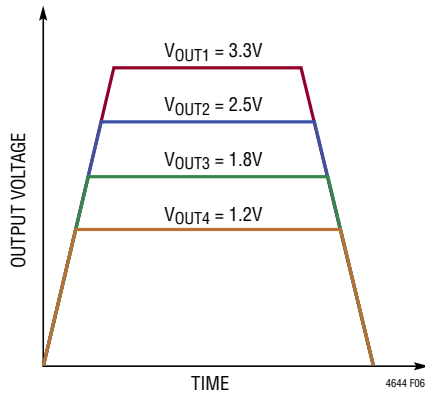

Figure 6. Output Coincident Tracking Waveform
The coincident output tracking can be recognized as a special ratiometric output tracking which the master's output slew rate (MR) is the same as the slave's output slew rate (SR), as waveform shown in Figure 6.
The expression shows that the diode voltage decreases (linearly if  $I_0$  were constant) with increasing temperature and constant diode current. Figure 6 shows a plot of  $V_D$  vs Temperature over the operating temperature range of the LTM4644.